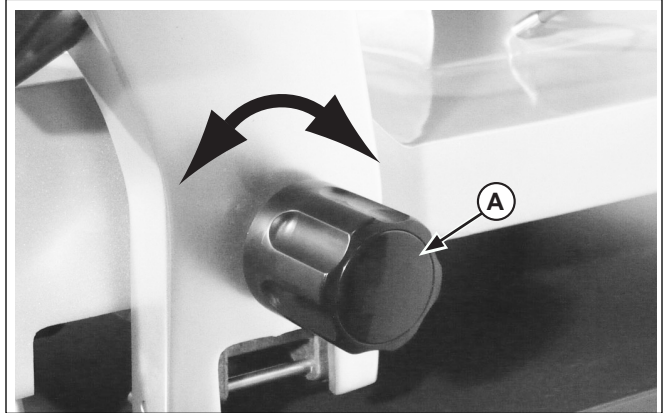

Figure 7. Carriage Tray Release Knob
9. Unscrew the carriage tray release knob (A), tilt the carriage tray (B) and clean. See Figures 7 and 8.